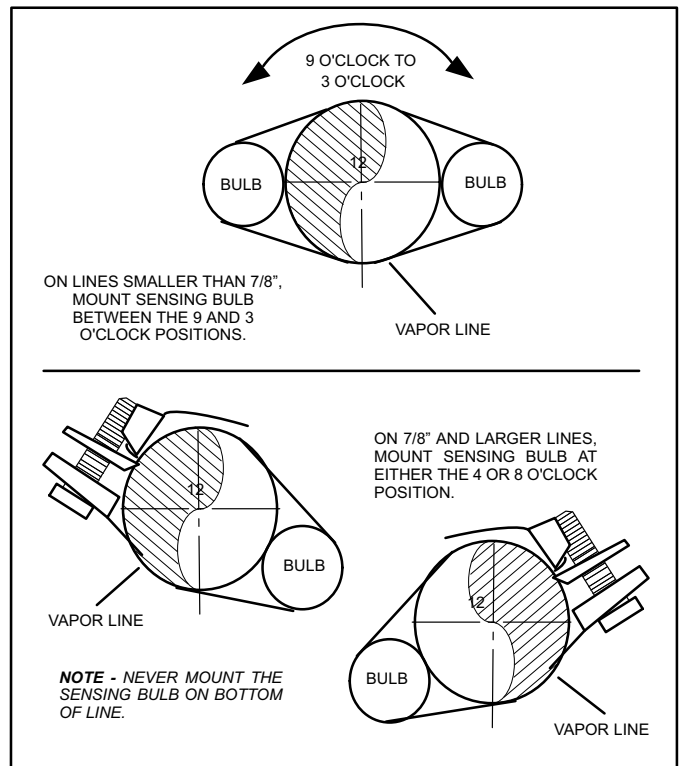

Figure 6. Expansion Valve Sensing Bulb Location
5. Attach the sensing bulb of the expansion valve in the proper orientation as illustrated in figure 6 to the vapor line using the clamp, strap and bolt provided with the expansion valve kit.